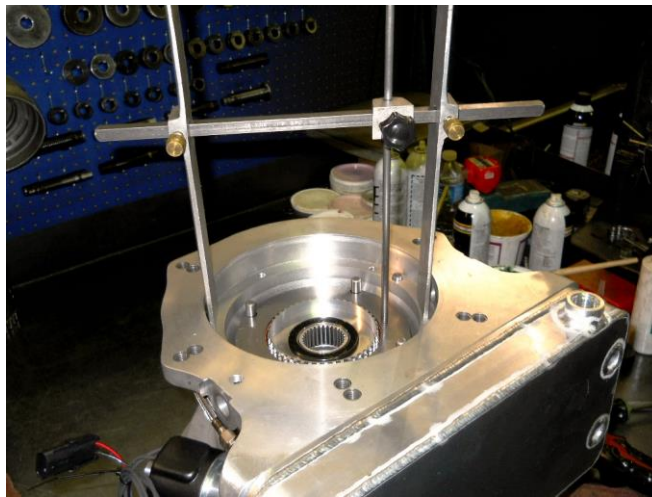

FIGURE 8
- **SERVICING BRAKE CLUTCH:** To service the brake clutch pack in the Quick Lock, it is recommended that the drive unit be removed from the race car. Once removed, the dump valve solenoid, housing and fittings (including pipe nipples) must be removed from the drive unit so that the rear piston housing may be removed. Remove the 5 bolts retaining the rear piston housing and gently pry the piston housing from the case. You may find it easier to remove the pan, filter and filter extension, then use a flat blade screwdriver or small pry bar to spread the clutch pack through the access slots in the bottom of the drive unit. Once the piston housing is removed, remove the clutch components from the drive unit, paying close attention to the assembly order and the orientation of the thrust bearings on either side of the clutch hub. Inspect the frictions for signs of burning, flaking, etc. Inspect the steels for any signs of damage. Some distortion of the steels in the area around the outside diameter where they engage the 4 dowel pins is normal; this can be filed smooth if you desire. Reassemble the clutch pack in this order: first the thrust bearing must be installed into the center support, then the clutch hub. Next, install the frictions and steels, starting with a steel plate against the center support, then altering steel plate and friction until 9 frictions and 10 steels have been installed, ending with a steel plate. Measure clutch pack clearance as follows. Set up your H Gauge to rest on the mounting surface in the case where the piston housing bolts in, with the center rod contacting the end steel plate (closest to the rear of the unit). See Figures 8 and 9.